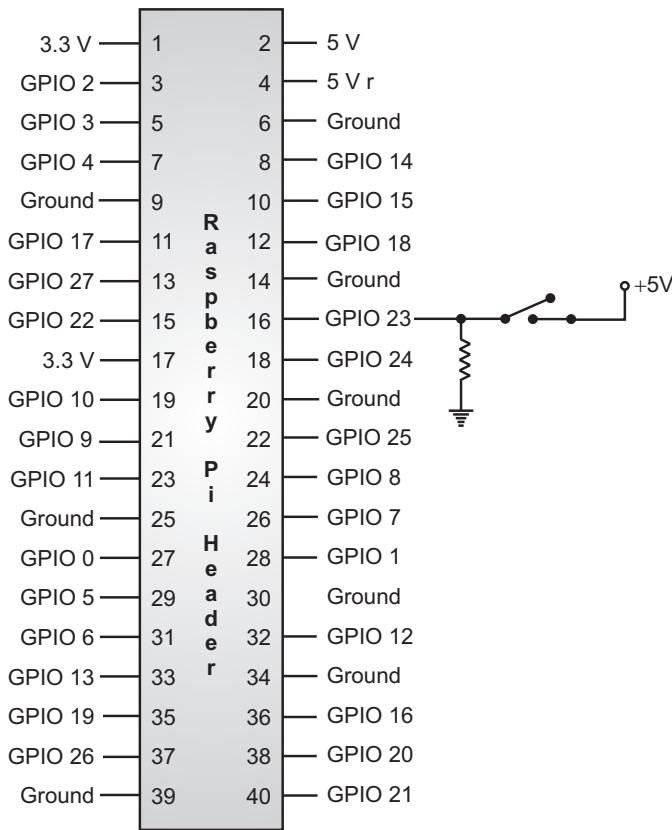

Fig. 4.6: Interfacing a switch to Raspberry Pi
- Below Fig. 4.6 shows the interfacing of switch to Raspberry Pi.
- Connect a switch as shown in Fig. 4.6.